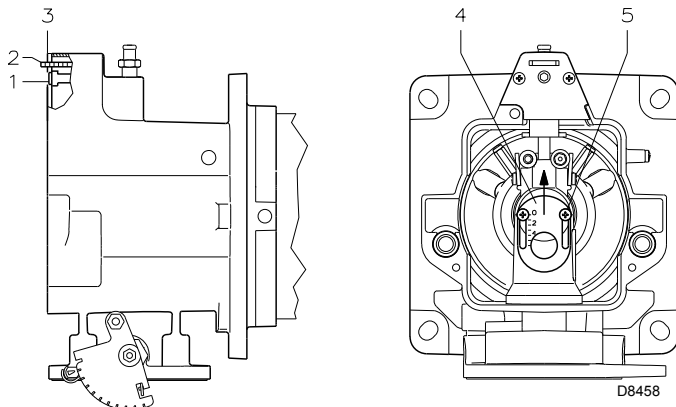
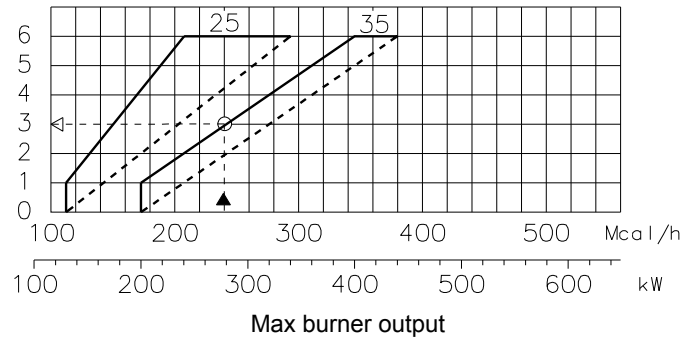
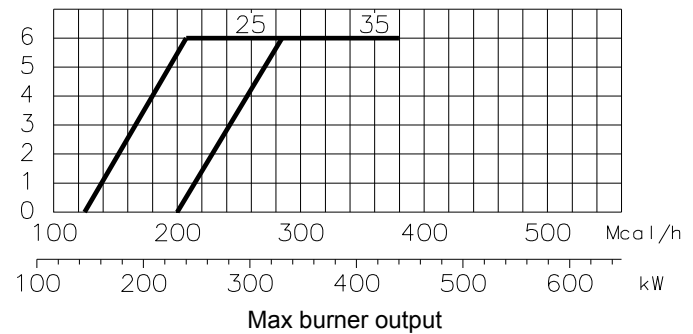

Fig. 13
Fig. 14
Fig. 15
Installation operations are now at the stage where the blast tube and sleeve are secured to the boiler as shown in Fig. 13.
Air adjustment (Fig. 13 - Fig. 14)
From diagram (Fig. 14) you can see that, for the MAX output of 270 kW, the air should be adjusted at notch 3, subtracted from the value of the pressure in the chamber.
If the pressure in the chamber is equal to 0 mbar, the air is adjusted with reference to the broken line of the diagram Fig. 14.
- In case the application needs a particular setup, it is possible to modify the central air delivery using the ring nut 4)(Fig. 13) up to the notch indicated in diagram (Fig. 15).
- In order to carry out this operation, unscrew the screws 5)(Fig. 13) and lift up the ring nut 4)(Fig. 13).
- At the end, tighten the screws 5)(Fig. 13) again.